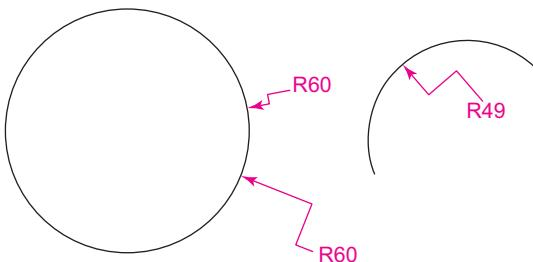

Fig. 6.16 Examples – the **Jagged** tool
The Jagged tool (Fig. 6.16)
1. Draw a circle and an arc as indicated in Fig. 6.16.
The results of placing a jogged dimension on a circle and an arc are shown in Fig. 6.16.